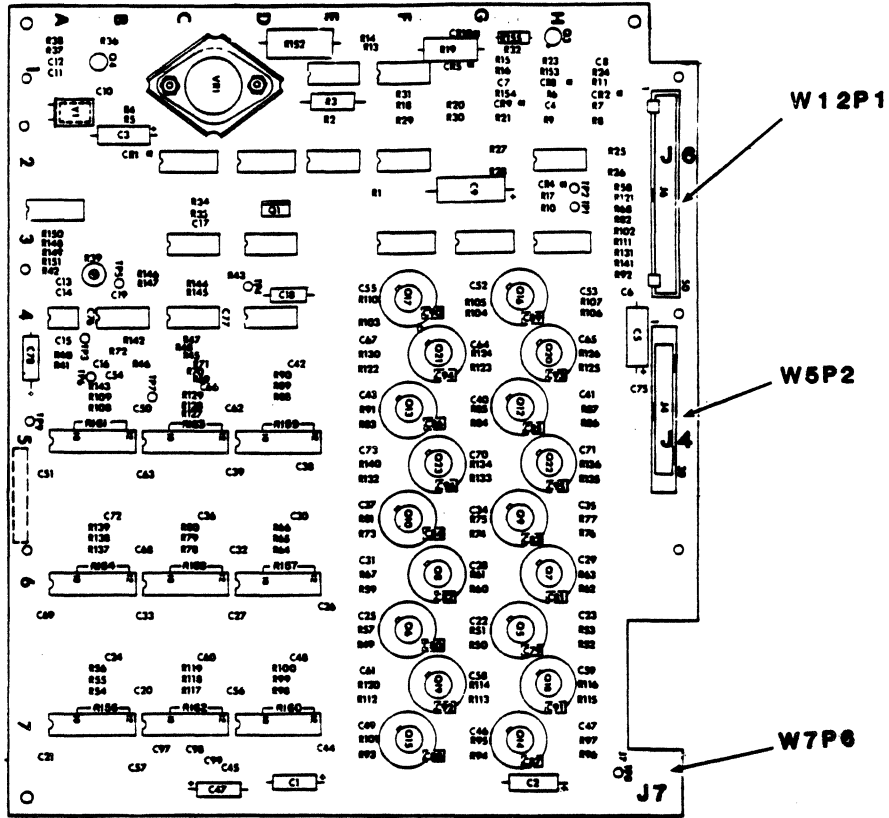

Figure 6-30. Write Driver PWA Connectors
1. Remove connectors W7P6, W5P2, and W12P1 (see figure 6-30).